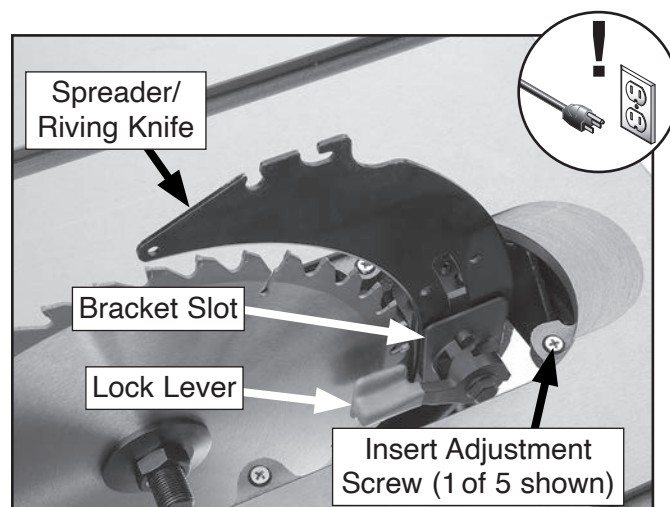

Figure 44. Lock lever used to secure spreader/riving knife.
4. Insert lower set of holes on spreader/riving knife into bracket slot, and tighten lock lever to secure spreader (see **Figure 44**).